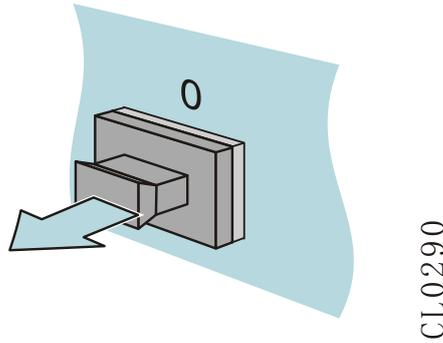

Figure 4-12 Pull out the dust plug
Step 2: Pull out the dust plug on the optical interface of the router, as shown in Figure 4-12.